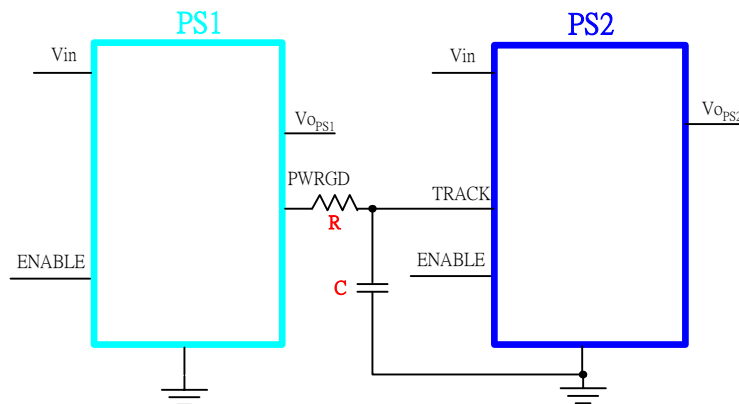
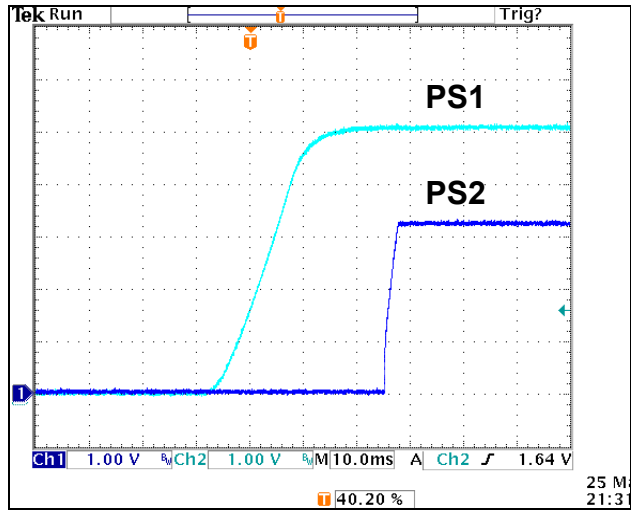
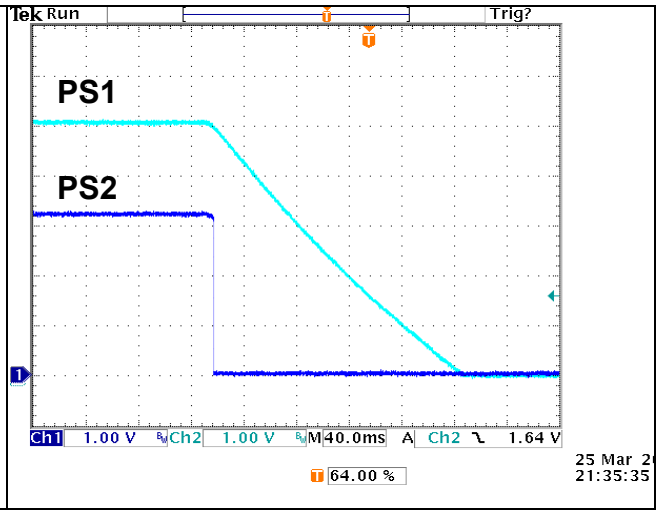

Figure 3. PS1 and PS2 track output voltage Sequential start-up
Figure 4: Sequential Power up
Figure 5: Sequential Power down
Sequential start-up is implemented by connecting the power good signal (PWRGD pin) of PS1 to the TRACK pin of PS2 with a resistor–capacitor (RC) circuit. The power up and down that waveforms in Figures 4 and 5. In Figure 4, the 5V PS1 supply ramps up first. When supply reaches its final 5V steady state value, the open collector output of the PWRGD pin releases to the TRACK pin and the PS2 output voltage rises at the rate of the RC time constant. In Figure 5, the PWRGD pin pull low by PS1 ENABLE off or the PS1 output voltage is below 90% of the desired regulated voltage. The TRACK pin is pulled low and the PS2 power down. Figure 3 shows the circuit diagram of sequential start-up when $V_{O_{PS2}}$ tracks the PWRGD of PS1.